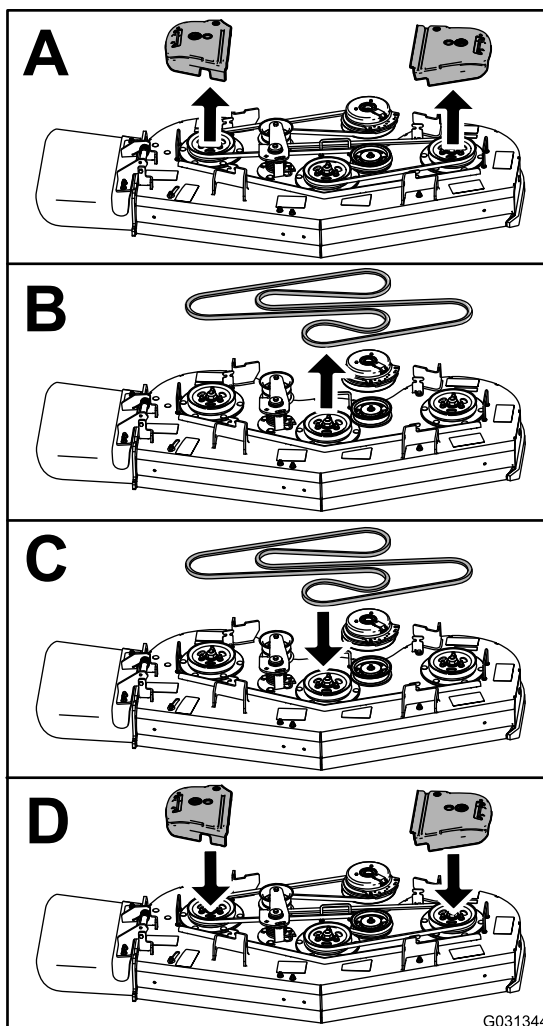

Figure 65
4. Replace the belt as shown in Figure 65.